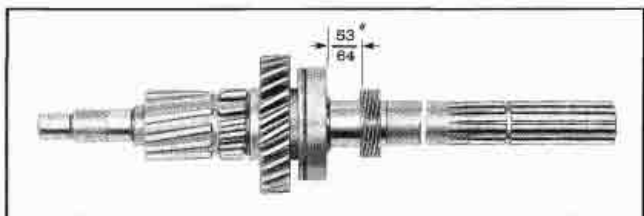

Fig. 7-46 Mainshaft Assembly
5. Start speedometer drive gear on shaft with chamfered I.D. of gear toward bearing. Press gear on shaft until forward face of gear is $\frac{53}{64}$ " from rear face of bearing (Fig. 7-46).